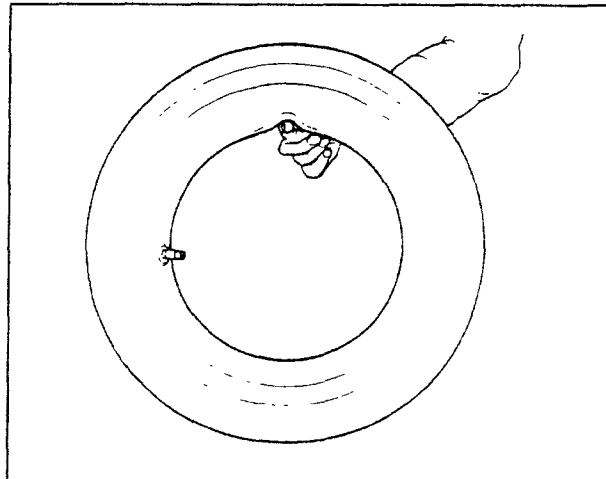

Fig.21
C. Inflate the tube slightly: if held with the index finger it should bend a little (Fig.21).